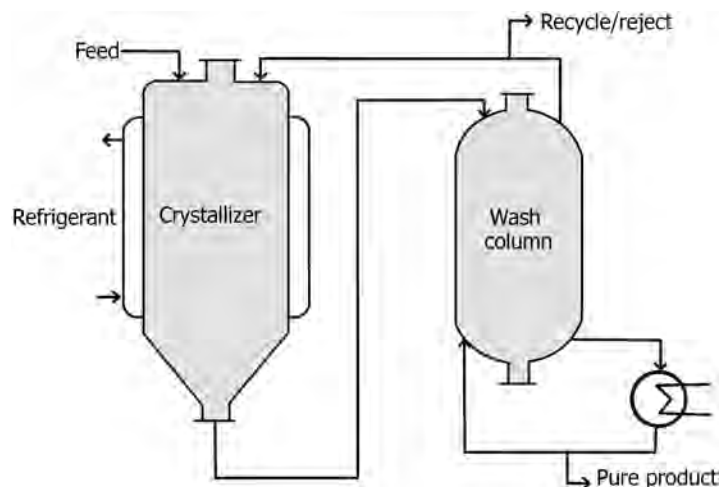

FIGURE 18.8 Generalized melt crystallization process with a wash column.
- Figure 18.8 gives a flow sheet of a melt crystallization process.